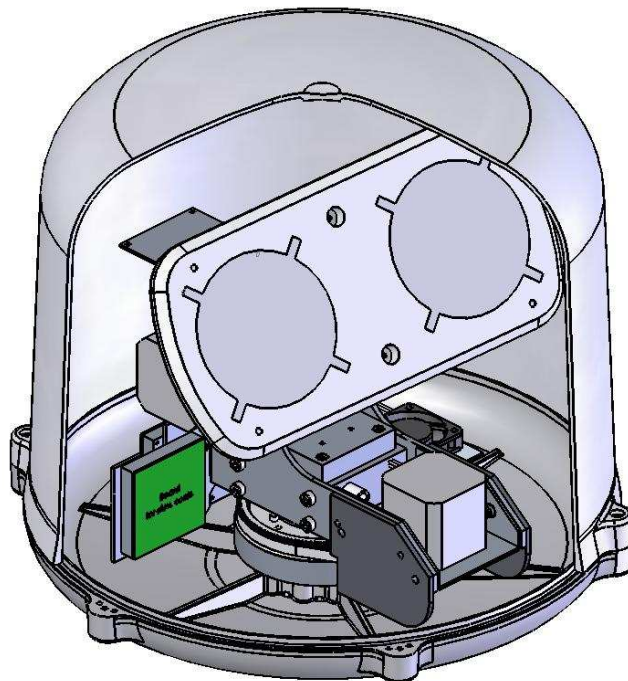

Figure 1. Cross section showing the “ThurayaDSL Maritime Antenna” inside the dome.
4. Washers, Part No. SPAC-M90-10062, are used to protect the plastic bushes SPAC-M00227 when the screws SPAC-M90-10205 are tightened to the specified torque (refer to FIG.1 and 2). The washers **MUST** be used.
6. U-bolts, Part No. SPAC-M00428, are used to fasten the flanges SPAC-M00430 to the Mounting Pole, refer to FIG.1 and 2.